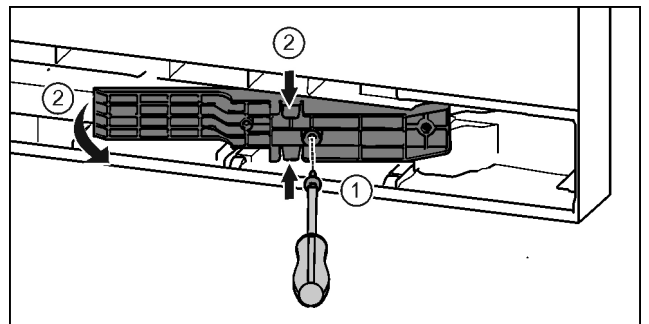

Fig. 20 \*
- Loosen the screws with the T15 screwdriver. Fig. 20 (1)\*
- Pull out the adapter. Fig. 20 (2)\*